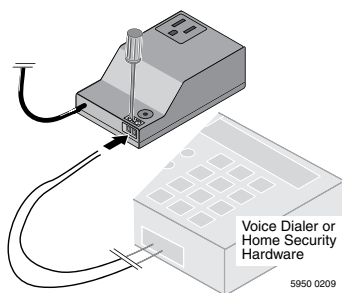

Figure 10: Connect dry contacts to voice dialer or home security system. Connect one wire to each terminal; polarity doesn't matter.
When the High Water Alarm sounds, it also closes a normally open (NO) dry contact which can be connected to a voice dialer or home security system, alerting you to abnormal high water conditions. Use low voltage wire for the connection. The contact is not sensitive to polarity, so it doesn't matter which wire goes to which pole of the contact (see Figure 10).